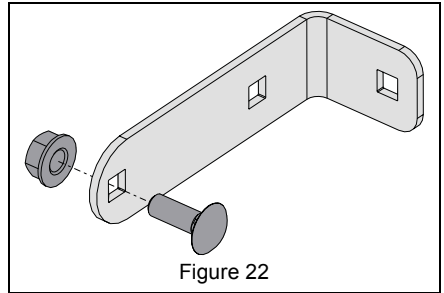

Figure 22
1. Remove hardware retaining L-bracket to battery bracket and reinstall hardware into L-bracket hole nearest curved edge. See Figure 22.